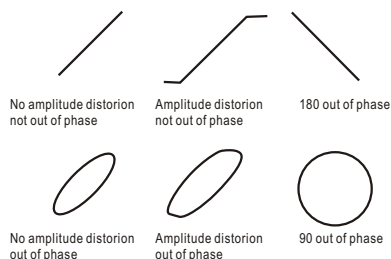

Fig. 17 Typical X-Y Phase Measurement Display
(Refer to Fig.17)
5. If necessary, repeat step 3, readjusting the channel 1 and 2 gain controls for a suitable viewing size. Some typical results are shown in Fig.17